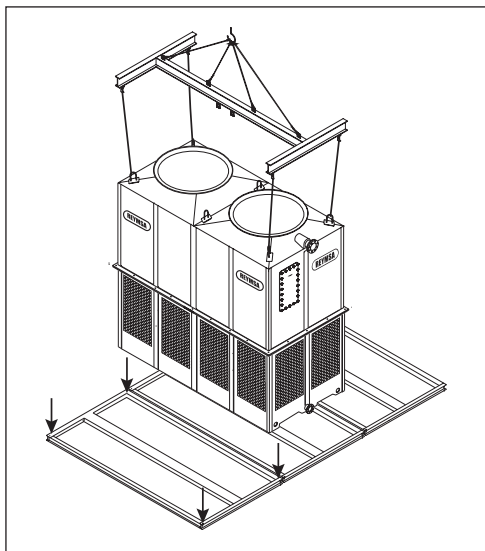
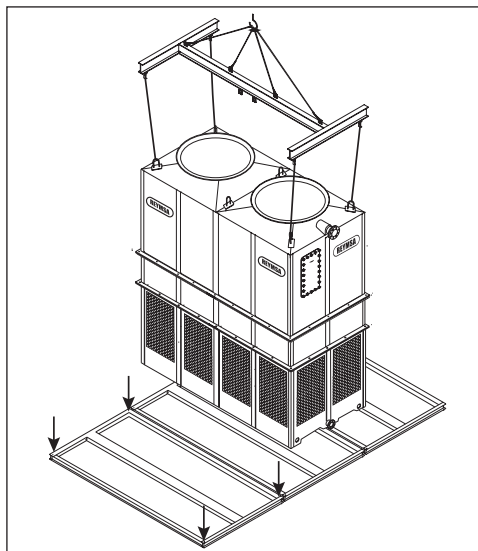

Figure A-59: T1 module lifting and installation (RTM-B-L)
Figure A-60: T1 module lifting and installation (RTM-D-L)
- A. Once the basin and body sections have been assembled, lift the Tower using a crane and a spreader bar and place it on top of the isolation pad and the steel base structure. Secure it with the stainless steel nut and bolts sets (supplied by others) as shown on Figure A-59 and Figure A-60.